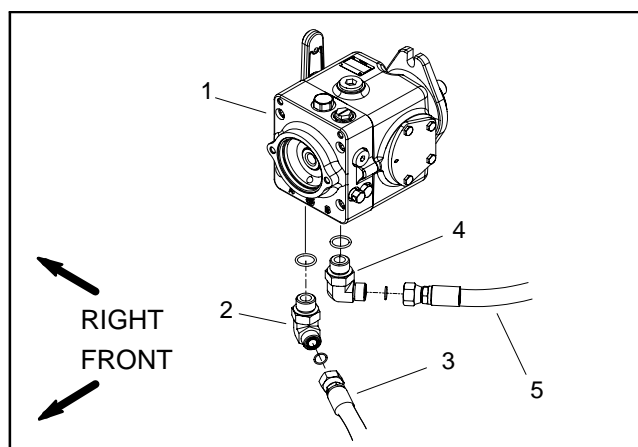

Figure 63
3. Thoroughly clean junction of hydraulic hose and **left** side elbow fitting on bottom of traction pump (Fig. 63). Disconnect hose from left side pump fitting.